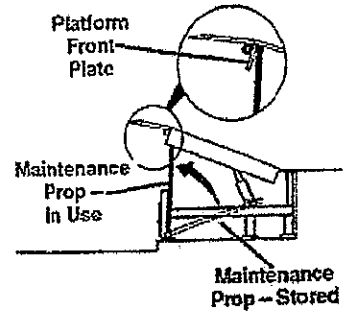

Figure 3
9. Use a fork truck (or other method) to raise dock leveler platform to a height that will allow use of the maintenance prop. The maintenance prop is accessible when the platform is raised. The top of the prop should be positioned directly behind the front header plate of the platform. See Figure 3.